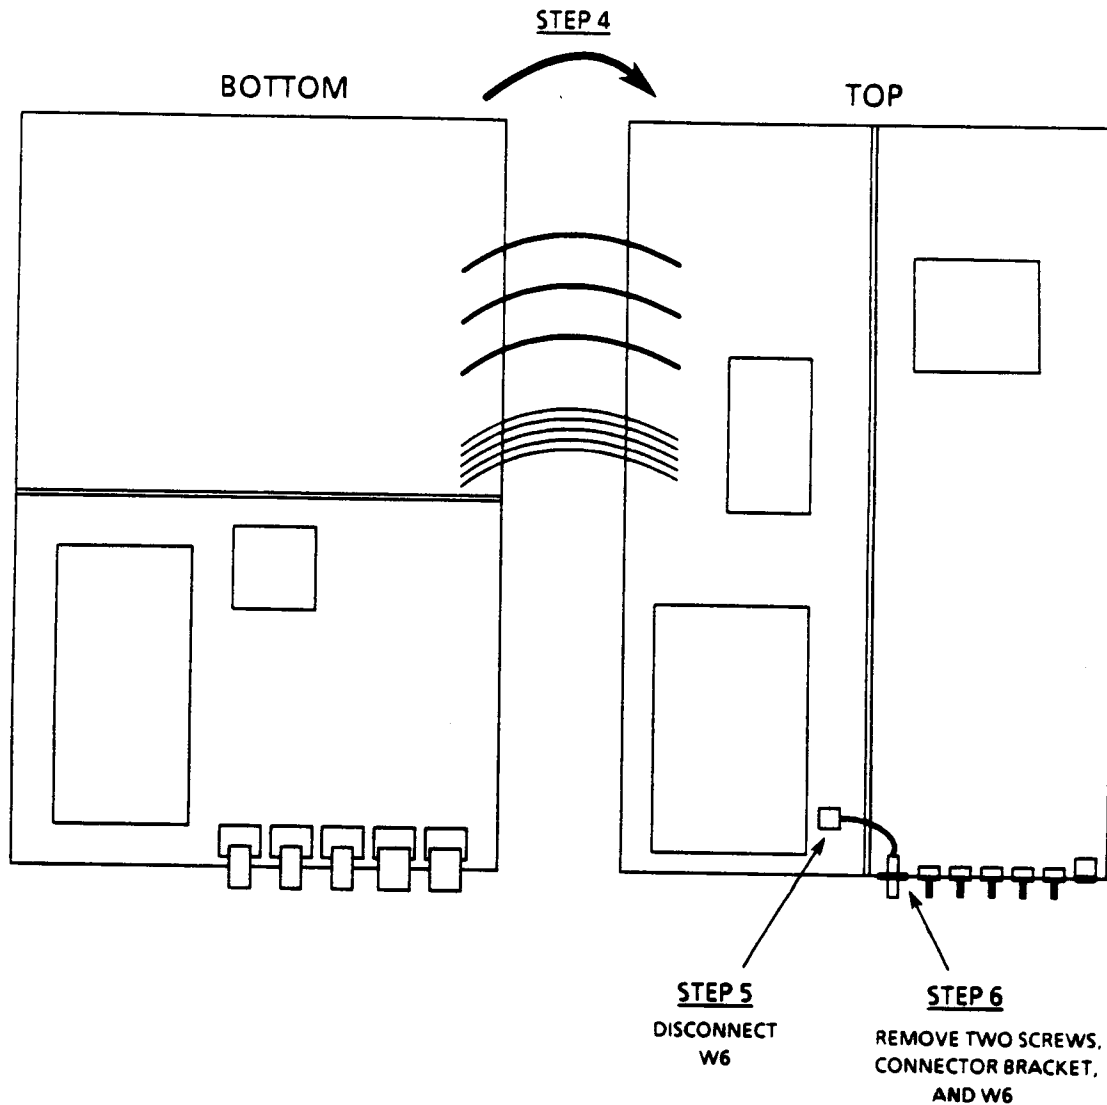

Figure C-3. Opening the Miniceptor and Removing W6
4. Carefully lift the top half of the unit from the bottom half and spread open clockwise, similar to opening a book (see Figure C-3).
5. Referring to Figure C-3, disconnect cable W6 from the RF Converter module (at J1).